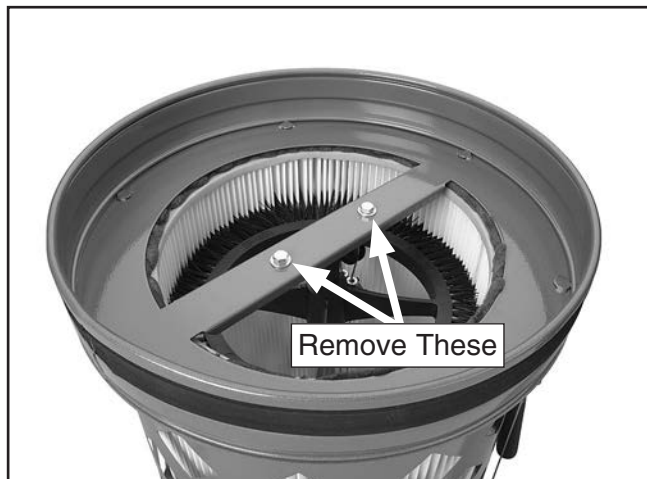

Figure 91. Cross support fasteners.
6. With help from another person to steady the canister assembly, turn it upside down and remove the two M8-1.25 x 20mm hex bolts, hex nuts, and flat washers from the cross support (see **Figure 91**), then remove the canister base from the assembly.